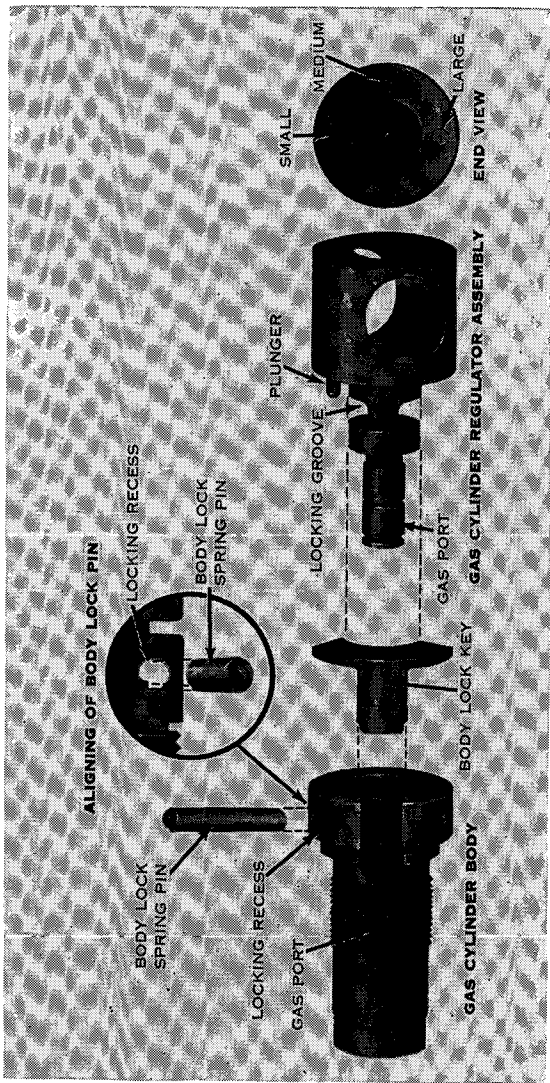

Figure 111. (Superseded) Gas cylinder assembly.
d. (Added) A new gas cylinder assembly has been devised and is composed of the following parts: gas cylinder body, body lock key, regulator, and the body lock spring pin (fig. 111). On the face of the regulator there are three circles of different sizes. These circles correspond with similar size gas ports in the body of the regulator. The rifle is normally operated with the regulator on the smallest port and the setting is not varied unless the rifle shows signs of insufficient gas.